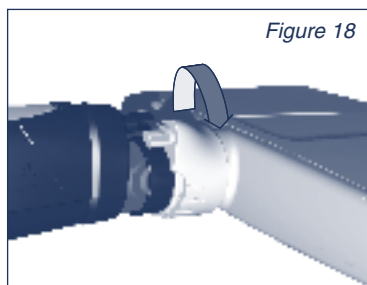

Figure 18
- 2) Keep the tip-ejector button depressed and grip the ejector-clip (figure 18).